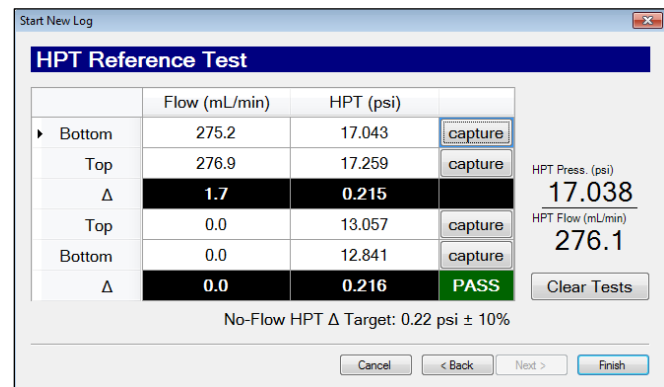

Figure 5.6: HPT Reference Test Screen
4. With a stable pressure reading and the water flowing out of the valve select "capture" - bottom with flow (Fig. 5.6)